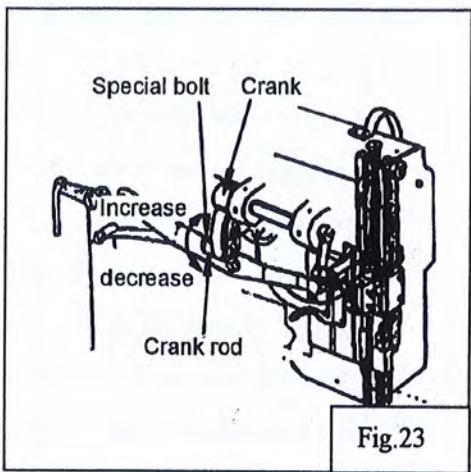

Fig.23
16) Walking foot and presser foot vertical stroke adjustment (Fig.23):